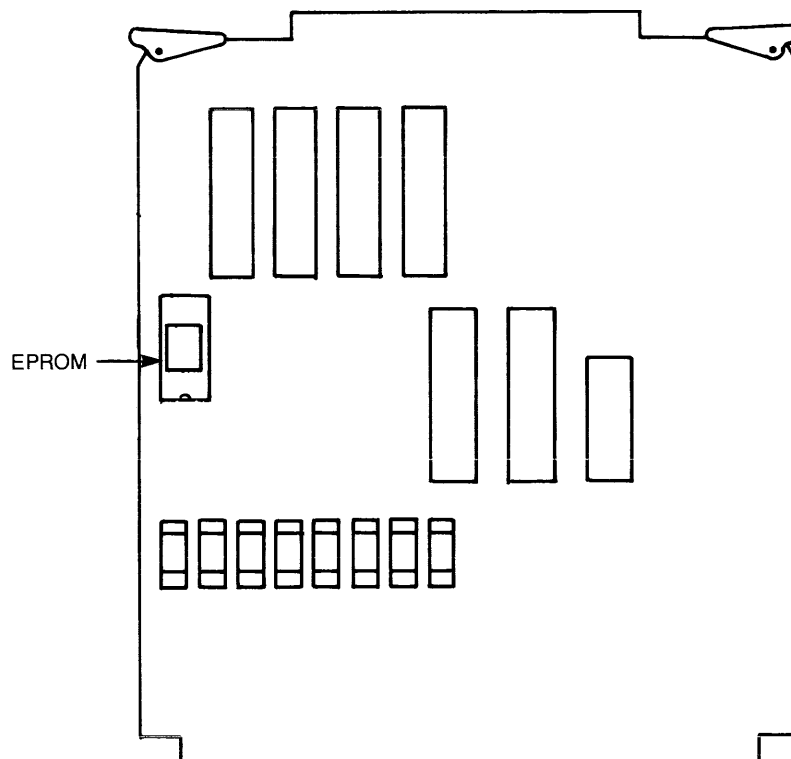

Figure 2-1. EPROM Socket Location
The firmware ROM is installed in a socket provided on the MUX interface as shown in figure 2-1.
- 1) Remove the old EPROM from its socket. Figure 2-1 shows the location of the EPROM.